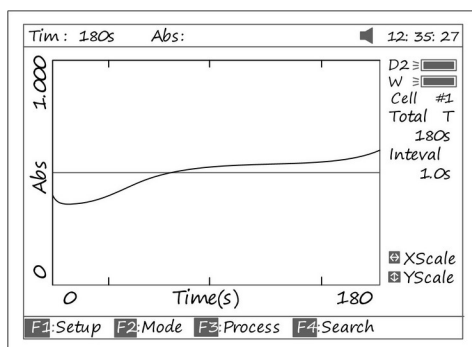

Fig 56
4. Pull the sample cuvette into Light Path, press [START] to scan the sample. After the delay time, the beeper beeps 3 times and time -scan starts. At the end of the time-scan, the beeper also beeps 3 times (Fig 56);
Press the key [SAVE] to save curve. Note: Load/Save requires the first kinetics display page Fig. 56. Press ESC if in Search to return to the required page.